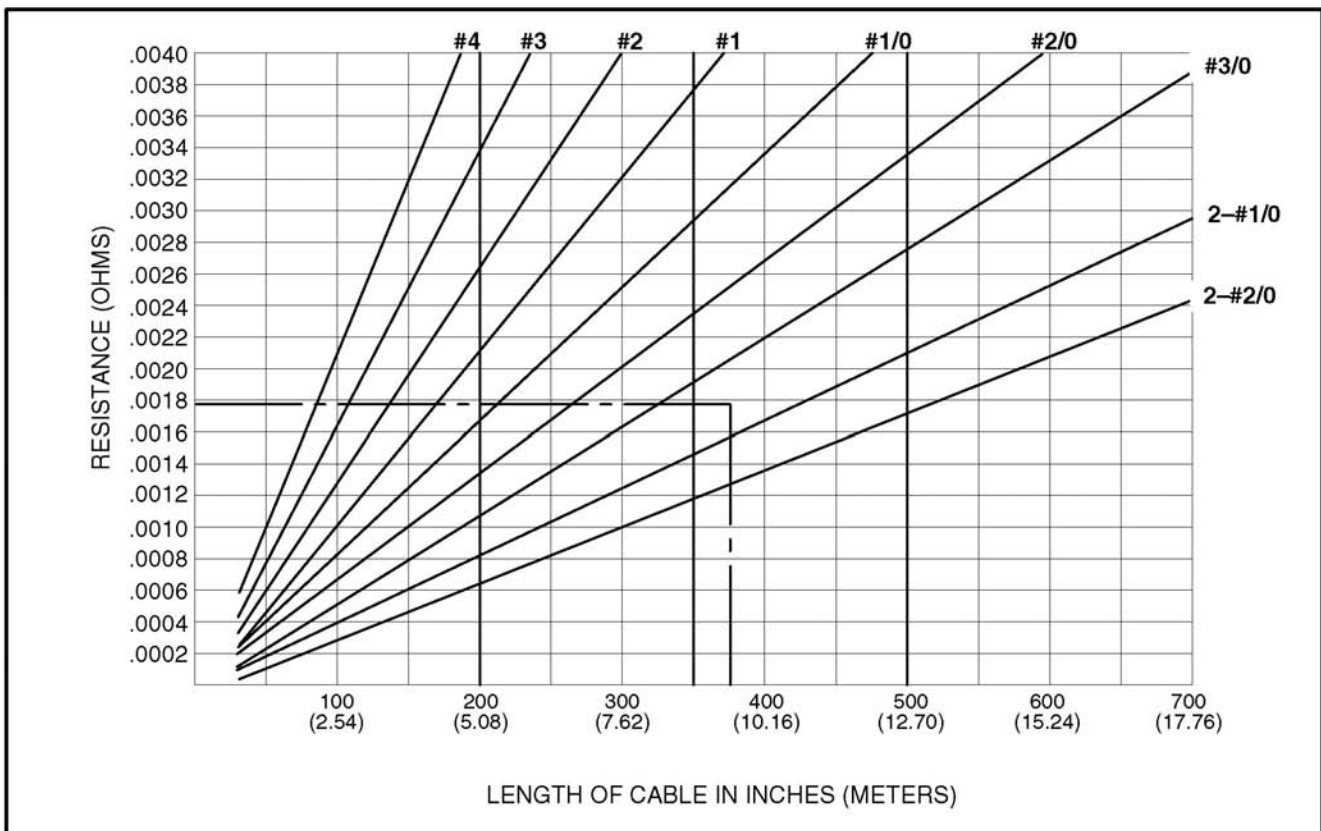

FIGURE 22. RESISTANCE VS. LENGTH FOR VARIOUS AWG CABLE SIZES
4. Refer to Figure 22 on page 53 for AWG (American Wire Gauge) cable resistances. In this example, as shown by the dashed lines, the smallest cable size that can be used is 2-#1/0 AWG cables in parallel.